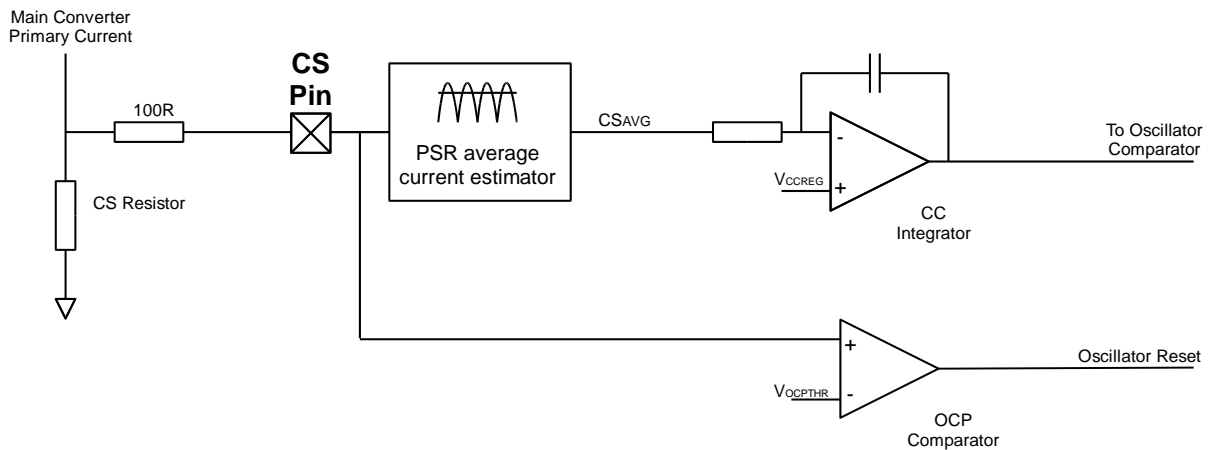

Figure 7: RED2521 Current protection and control circuits
Figure 7 shows the two current control methods used in the converter:
Shown in figure 7 the signal from the CS pin is divided into two different paths. The bottom path provides peak instantaneous over-current protection (OCP) while the PSR Average Current estimation block provides the current regulation (CC) information. The voltage on the CS pin is an AC signal biased around GND. Inside the PSR block this signal is processed to provide a voltage proportional to the average converter output current.
The RED2521 has an improved CC regulator that is better able to compensate for incoming mains ripple. This means there is no 100/120Hz visible flicker present on the LED. A functional diagram of the CC regulation circuit is shown in Figure 7. CC operation is defined by an internally compensated control loop that provides a system response time of approximately 150us in a typical application. The average current regulation point, V_{CCREG} is pre-set to 150mV, referred to the CS pin.